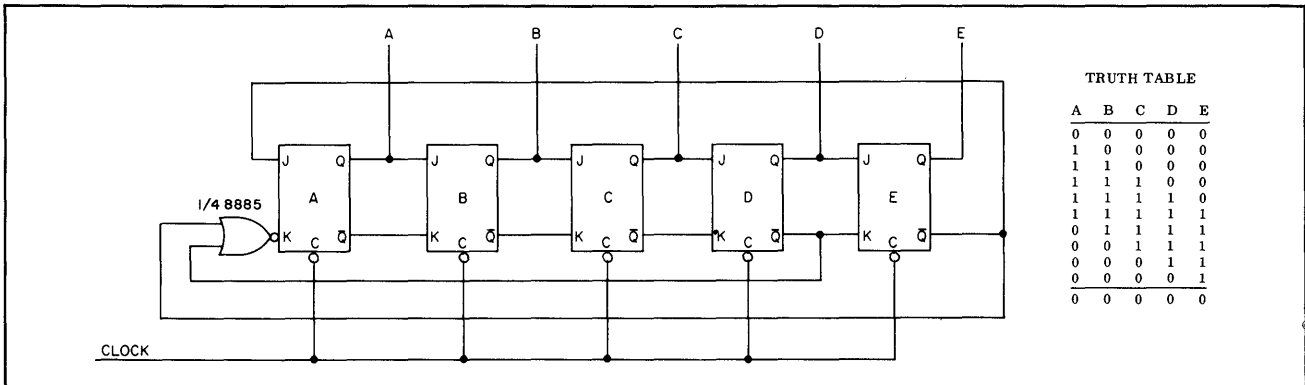

Figure 4-45
Twisted ring counters provide a count of $2N$ for N binary bits. This is generally accomplished by feeding back Q to K and \bar{Q} to J . In some instances, the counter may have sub-loop conditions other than those shown in the truth table. To avoid these conditions, a self-correcting configuration such as that shown in Figure 4-45 should be used.
2. Take the next largest integer above $\frac{N}{3}$, where N is the number of binary bits, and run that many feedback loops from \bar{Q} to the NOR gate. The loops are connected by starting with the last bit and working back. In Figure 4-45, N is 5, so $5/3$ is 1-2/3, and the number of feedbacks required is 2. Hence, feedback loops are connected from the last and next to the last \bar{Q} s. If N were 6, the number would be 3.